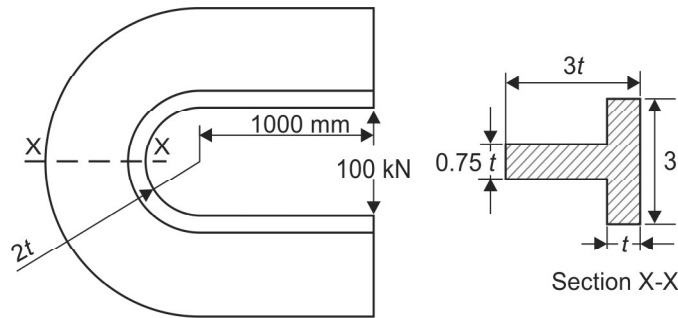

Fig. M1.30
b. The C-frame of a 100 kN capacity press is shown in Fig. M1.30. The material of the frame is grey cast iron FG 200 and the factor of safety is 3. Determine the dimensions of the frame. (12 Marks)